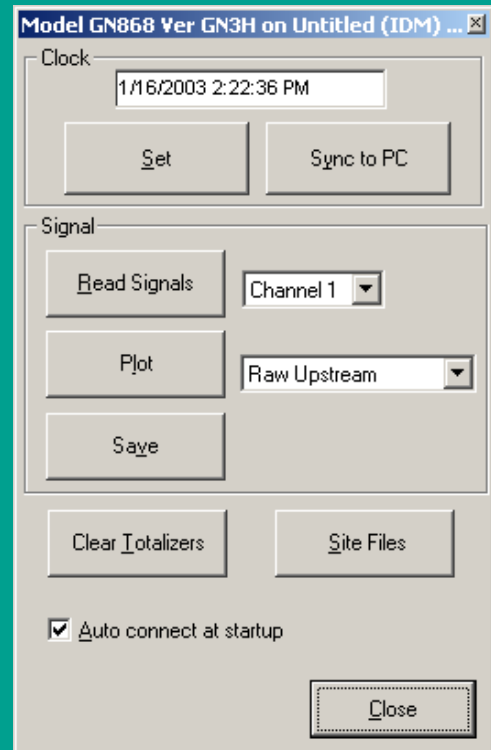

Figure 28: Active signal options in properties window
1. Click on the *read signals* button. (If the meter is a multi-channel instrument, open the channel drop-down menu and click on the desired channel.) After a moment, the *properties* window appears similar to figure 28.